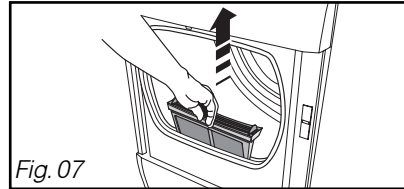

Fig. 07
- Remove it from its housing by pulling it from the bottom upwards (Fig. 07)